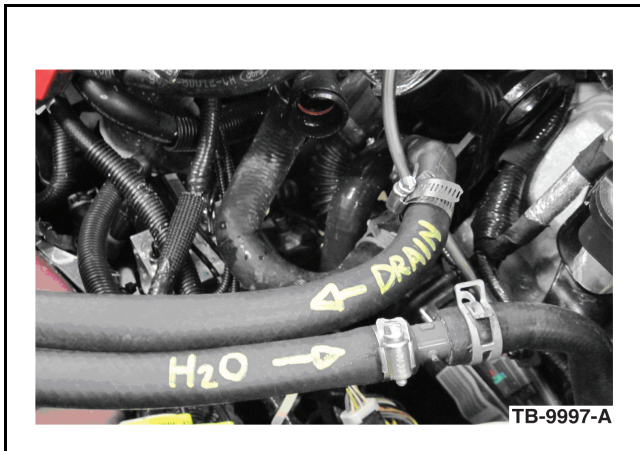

Figure 7 - Article 10-7-5
9. Using a 3/4" (19 mm) coupling adapter and clamps, attach the fabricated drain hose to the heater return port. (Figure 7)